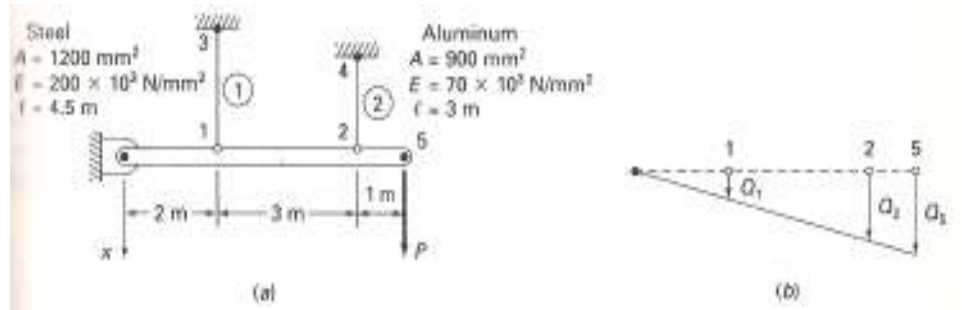

Fig.4
- (b) Consider the structure shown in the Fig. 4. A rigid bar of negligible mass, pinned at one end, is supported by steel rod and an aluminum rod. A load of  $P = 30 \times 10^3 \text{ N}$  is applied as shown. 06